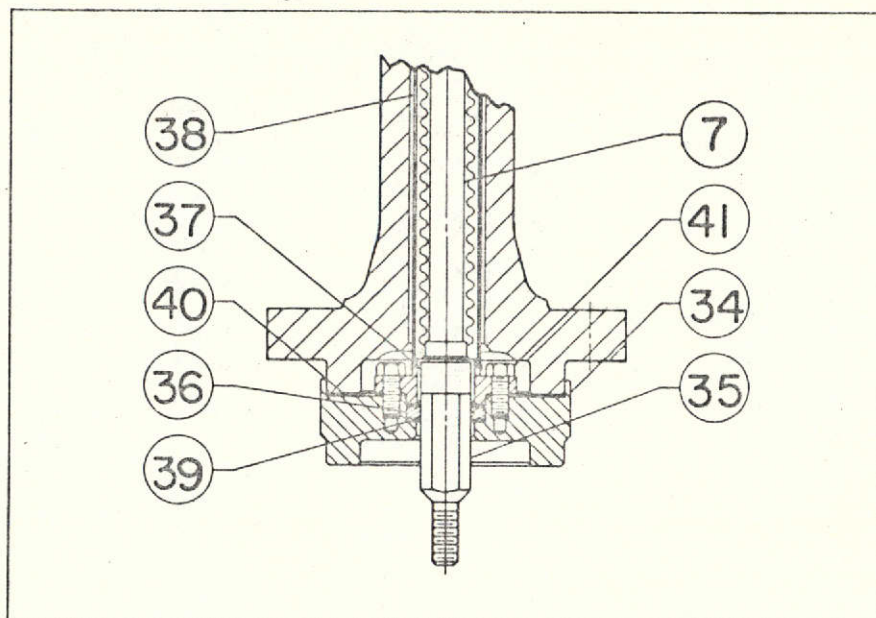

Figure 3. Partial Sectional of Bellows Seal
E. Bellows Seal Replacement (Figure 3)